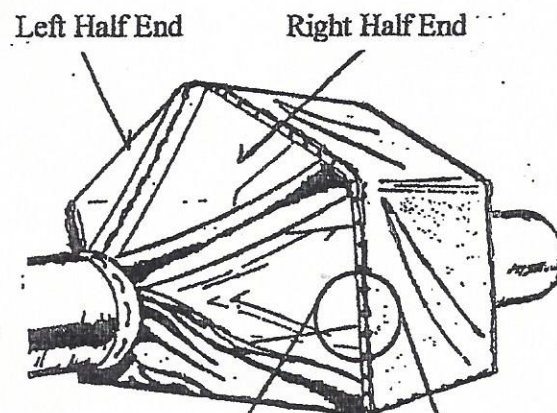

Fig. 3
- 10 – Tie one end of rope to the corner of opposite frame. Lace down through first grommet on side cover, through first grommet on end section, around the pipe out the adjacent grommet on end section then a half hitch around the rope & repeat this procedure for the entire end. See Figure 3.